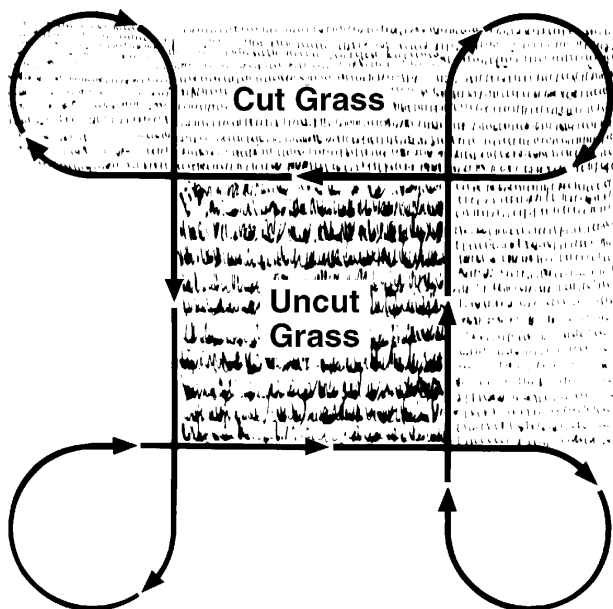

Figure 67
4. Follow the mowing pattern shown in Figure 67.